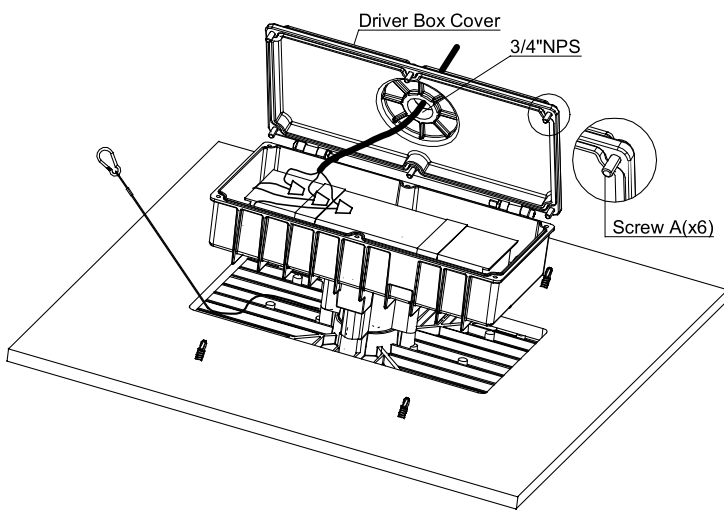

Figure 10
3. Remove Screws A (6) on the driver box and open the Driver Box Cover. See Figure 10.
4. Put the supplied 3/4" NPT Waterproof Joint in the center hole of Driver Box Cover. Feed the power leads into Driver Box through the Waterproof Joint and tighten the joint. See Figure 10.